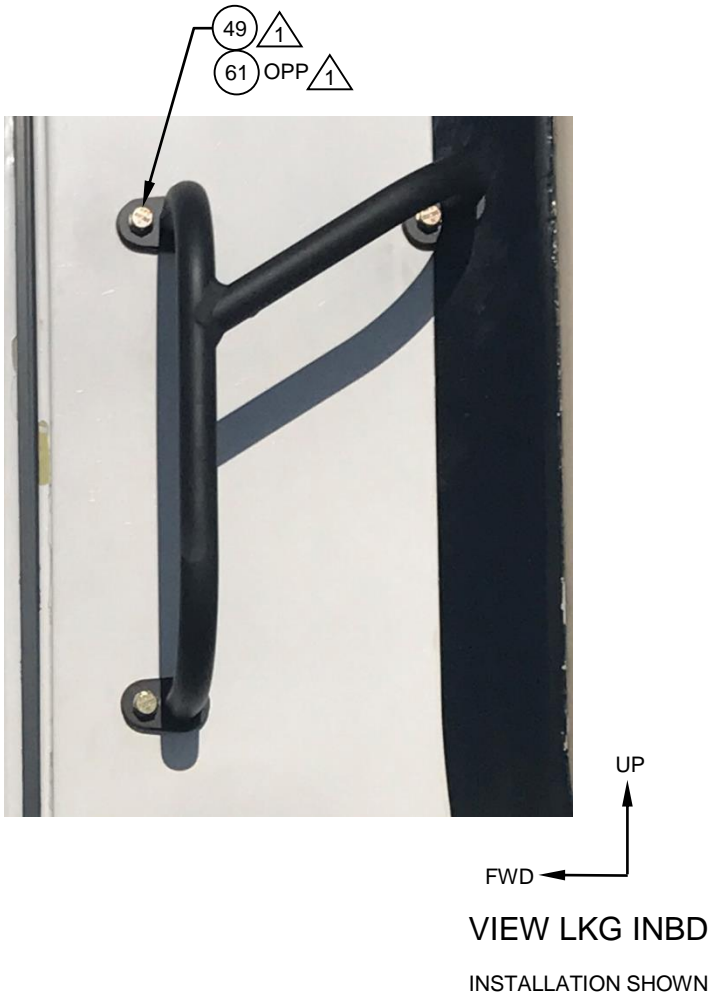

Figure 26
5. Install the Insert, Detail (Item 49 & 61) at the marked locations. Refer to the current revision of the BHT-ALL-SRM section 3-2-12. Reference Figure 26.